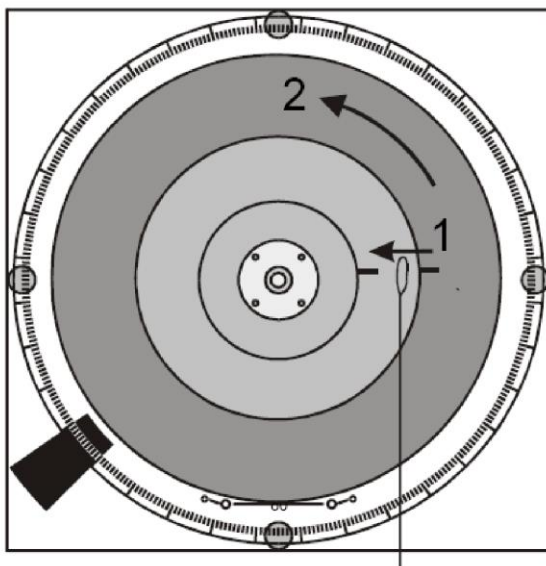

Figure 3. *Schematic sketch for setting the rotational model in uniform or uniformly accelerated rotational motion conveniently:*
of an extra disk (e.g. $r = 2.5$ cm) of the rotation model (Figure 3) and run it over the wheel which is attached by the bench clamp on the edge of the table. The accelerating force is generated e.g. by 3 small suspended weights of 1 g each ($F = 0.0294$ N).
- Hook up the transmission thread with its loop to the pin of an extra disk with e.g. a radius of $r = 5$ cm (Figure 3).